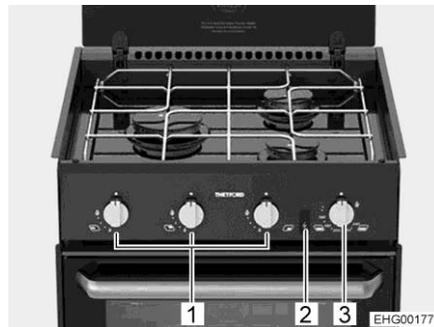
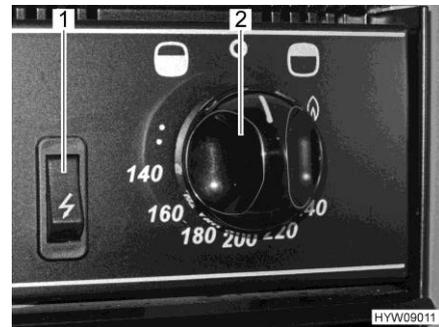

Fig. 129 Cooker with gas burners
Fig. 130 Operating controls (gas oven with grill)
- Press control knob (Fig. 129,1) of the desired burner, turn it to the ignition position (large flame), and hold it until the flame is burning (for a maximum of 15 seconds).
- Press the control knob (Fig. 129,3 and Fig. 130,2) and set it to the maximum setting anticlockwise (towards the oven symbol "").
- Press the control knob (Fig. 129,2 and Fig. 130,2) and hold it down for 5 to 10 seconds. Gas will stream into the burner.
- Keep the ignition switch (Fig. 129,2 and Fig. 130,1) pressed until the flame burns.
- Press the control knob (Fig. 129,3 and Fig. 130,2) and turn it clockwise (towards the grill symbol "") in the direction of the flame symbol.
- Press the control knob (Fig. 129,3 and Fig. 130,2) and hold it down for 5 to 10 seconds. Gas will stream into the burner.
- Turn the control knob (Fig. 130,2) to "O". The flame fades.